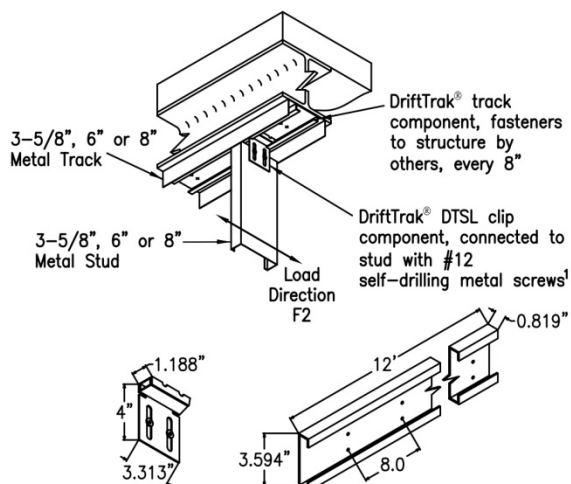

Figure 10 – DriftTrak® DTSL
3.3.6 DriftTrak® DTSL: The DriftTrak® DTSL is an L-shaped angle and track combination that connects exterior curtain wall steel studs of various depths at the head of wall to the building's structural frame while allowing for a maximum of 2 inches (51 mm) of vertical movement, and free horizontal movement between exterior wall elements and the primary structure. The minimum base-metal thickness of the clip is 0.0677 inch (1.7 mm) and the minimum base-metal thickness of the track is 0.0966 inch (2.5 mm). The long leg of the DriftTrak DTSL connector, which is fastened to the curtain wall stud, has two vertical slots, each $\frac{3}{8}$ inch (9.5 mm) wide by $2\frac{3}{8}$ inches (60 mm) long, and has bushings designed for #12 self-drilling/self-tapping steel screws installed in the centers of the slots. Refer to Figure 10 for overall dimensions of each DriftTrak DTSL connector and a typical installation detail.